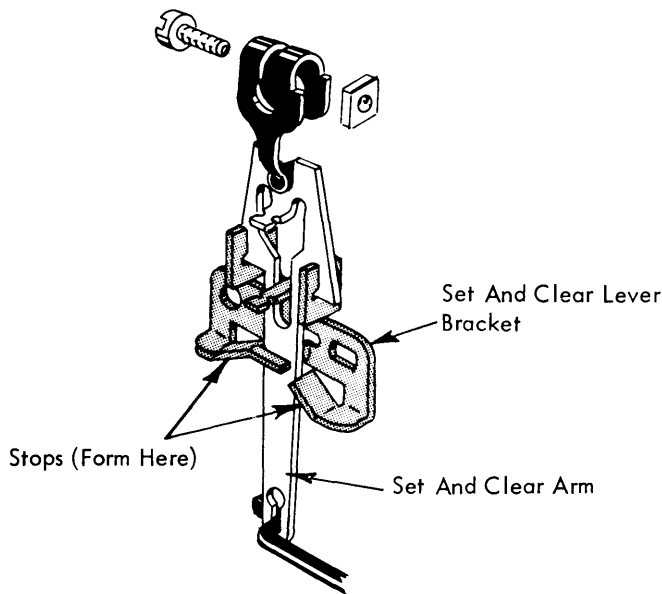

FIGURE 161. Set And Clear Arm Stops
3. Set and Clear Arm Stops - Form the stop lugs on the set and clear lever bracket (Fig. 161) so that they limit the movement of the arm just as the tab stop fully reaches its set or cleared position. Also, form the extension on the rear stop lug so the tab set and clear arm cannot pivot sideways out of engagement with the tab rack bellcrank.